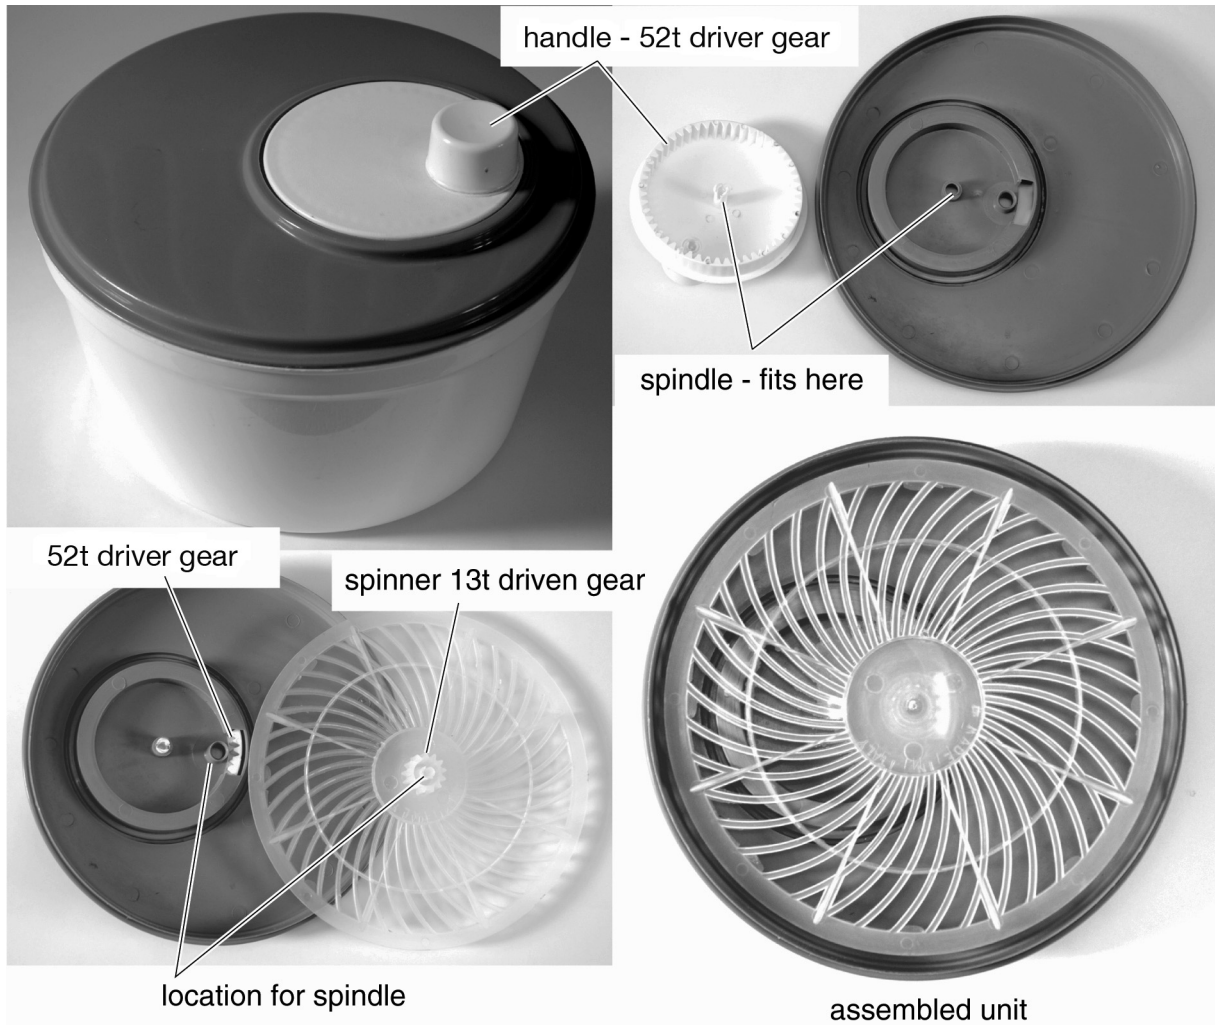

Fig. 6
- 3 Details of a salad spinner are shown in Fig. 6. When the handle is rotated centrifugal force causes water to move to the outside of the spinner basket, drying the salad leaves.